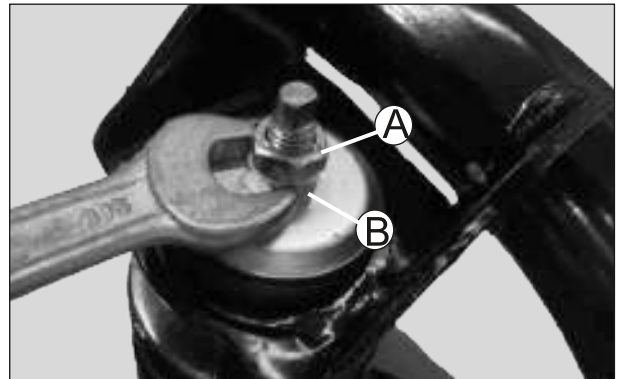

Fig. 5.77
- The top mounting of front shock absorber has two nuts, one on the top and the second at the bottom. Hold the hexagonal bottom nut (B). (Fig. 5.77)
- Loosen and remove the top hexagonal nut from front shock absorber assembly top mounting (A). (Fig. 5.77)